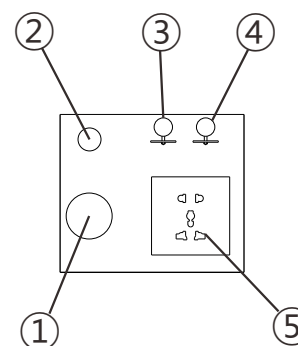

figure 1
3.4.4 The whole pipeline joint is installed in the 180mm, width 220mm (figure 1).